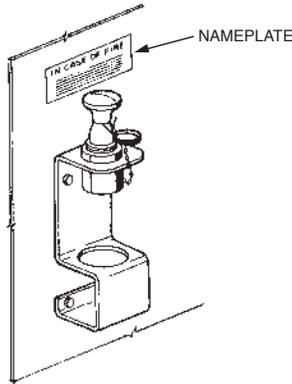

FIGURE 5-9
- Affix appropriate operating nameplate adjacent to manual actuator so it is visible to attending personnel. See Figure 5-9.